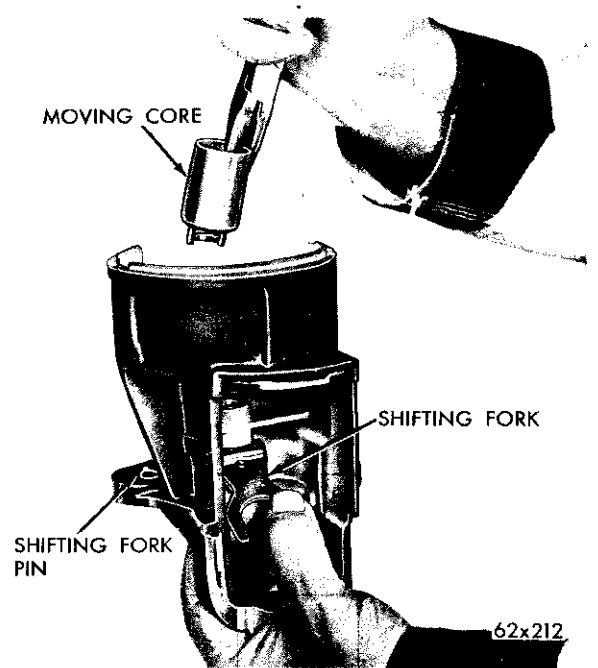

Fig. 12—Removing or Installing the Moving Core
- (20) Remove the driven gear and friction washer.
- (21) Pull the shifting fork forward and remove the solenoid moving core (Fig. 12).